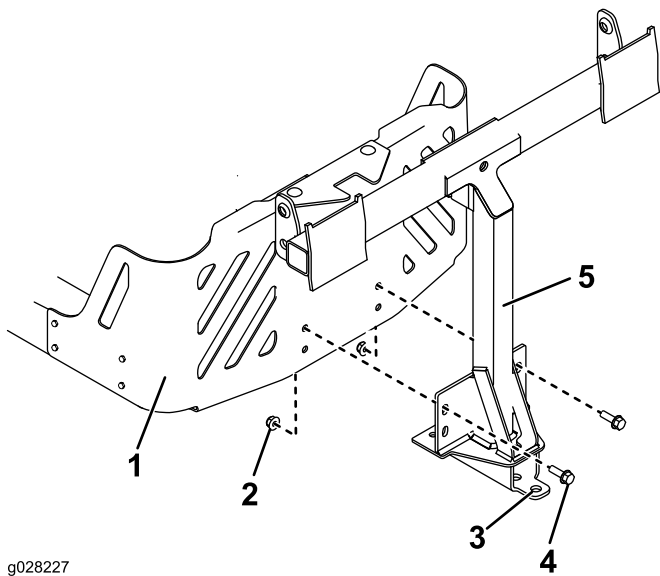

Figure 13
2. Install the pivot frame to the machine frame as shown in Figure 13. Secure the pivot frame to the machine frame using 2 bolts (5/16 x 1 inch) and 2 locknuts (5/16 inch).